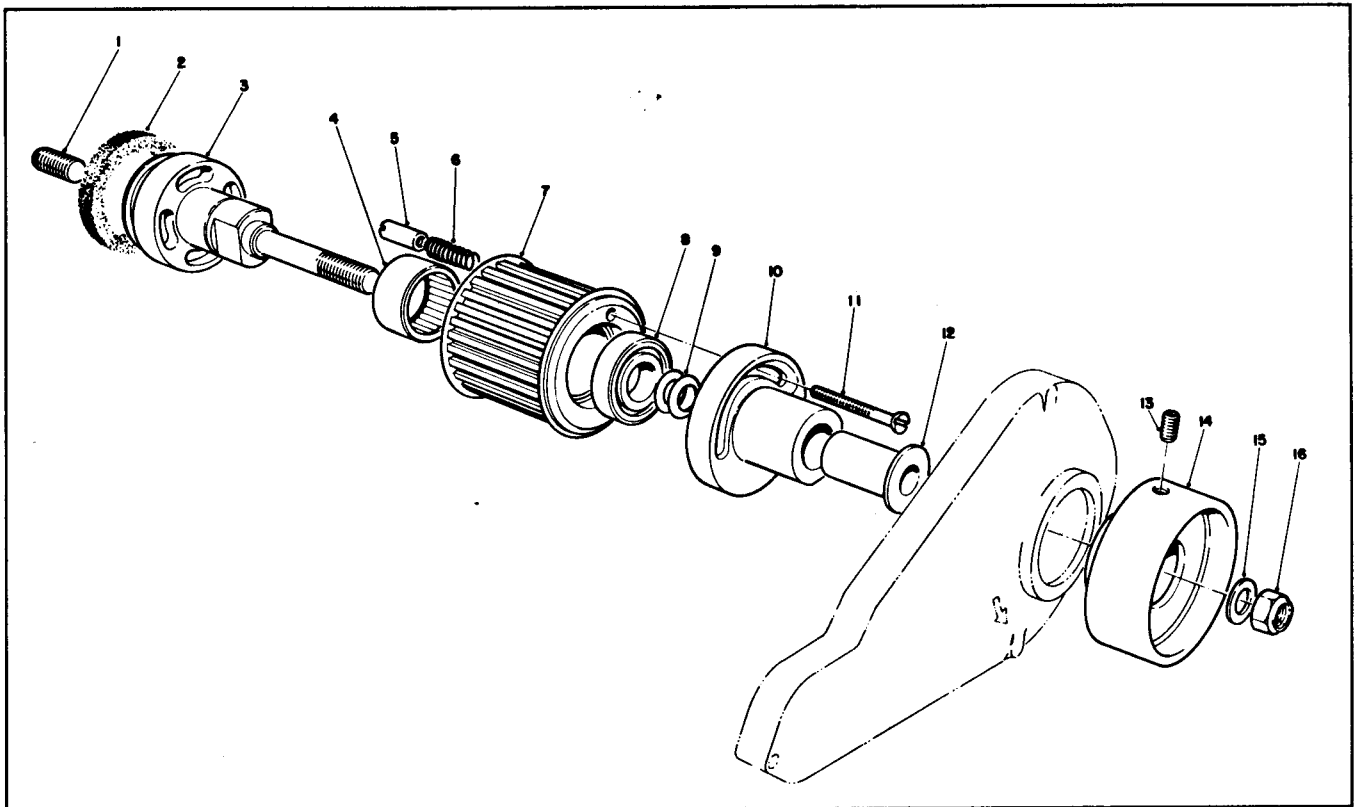

Figure 51
1. Loosen two (2) set screws and remove clutch knob (Fig. 51). Remove groomer reel housing cover from left side of cutting unit (Fig. 39).
3. Remove nut and washer from clutch adapter shaft (Fig. 51). Pull clutch assembly off adapter shaft and slide belt off driven pulley.
6. To disassemble clutch, remove special screw and clutch pin (Fig. 51).
7. Check condition of roller bearing and needle bearing (Fig. 51). Replace bearings if worn or damaged.